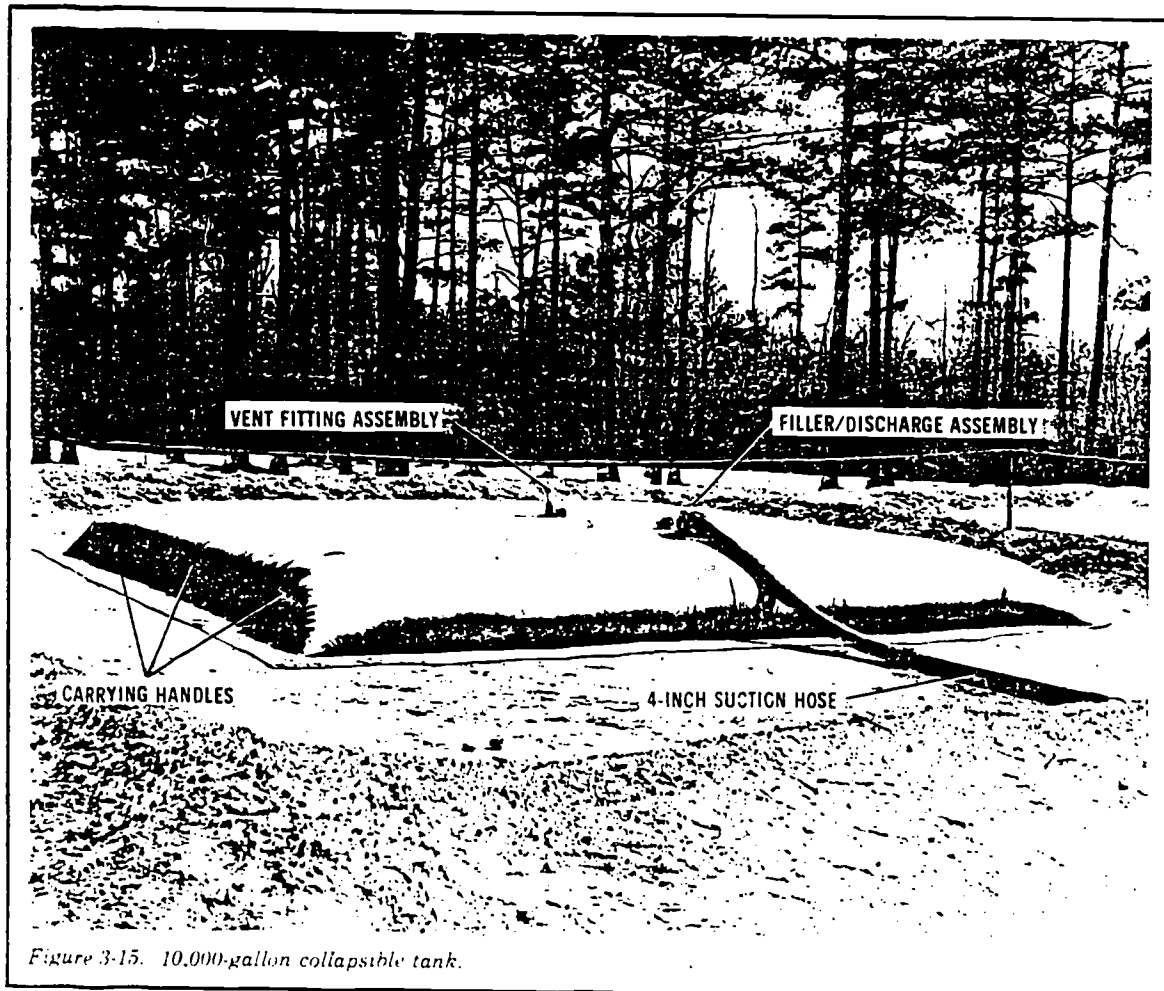

Figure 3-15. 10,000-gallon collapsible tank.
■ **Description.** The 10,000-gallon collapsible fabric tank (fig 3-15) looks a lot like the 3,000-gallon collapsible tank. It is made of single ply elastomeric-coated nylon. It has six carrying handles, a filler discharge assembly, a vent fitting assembly, and a drain fitting assembly. The tank also has emergency repair items (page 3-14). When filled, the tank is about 20 feet 6 inches square and 4 feet high.